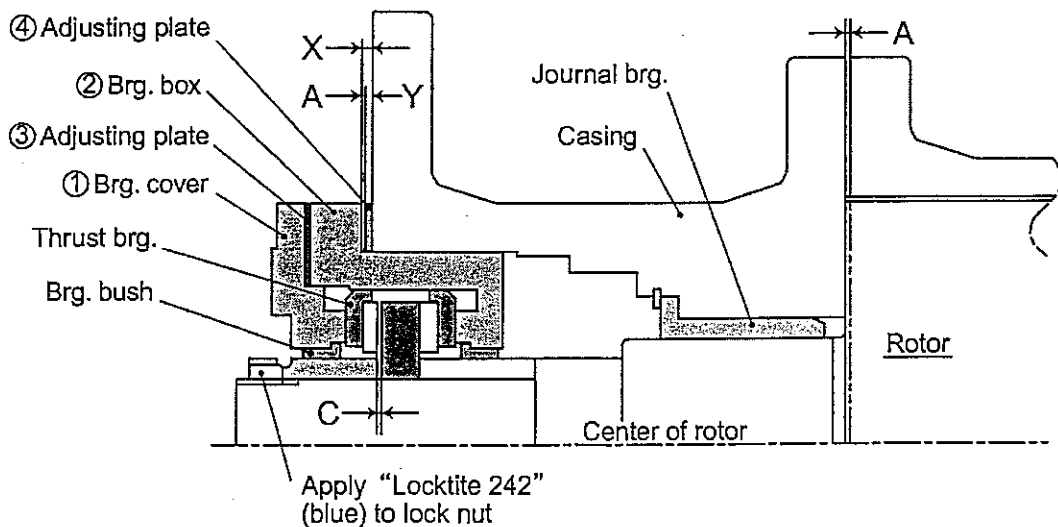

Fig. 4-2
- (2) Insert a shim between the outlet casing and thrust bearing box with such a thickness that the rotor keeps clearances from both side casing end planes. If the rotors are not replaced with new ones, the original adjusting plates may be employed as the shim.
- (3) Apply a dial gage to the rotor shaft end.
- (4) Move the rotors in both axial directions and measure the displacement of the rotors. This displacement is "thrust clearance of C". (Fig.4-2)
- (5) If the measured thrust clearance is found smaller than the required thrust clearance, replace the thrust adjusting plate between the thrust bearing box cover and the thrust bearing box with thicker one. It is allowed to add shims cut into the shape of the thrust adjusting plate to the existing thrust adjusting plate, But it is preferable to use a new thicker thrust adjusting plate.
- (6) If the thrust clearance is found larger than the required thrust clearance, polish the surface of the thrust adjusting plate to reduce the thickness.
- (7) Replacement of Thrust Pads
- (1) Place the rotor in the casing, and push the rotor toward the discharge side so that the discharge end plane clearance becomes zero. (See Fig. 4-2)
- (2) Then, pull the thrust bearing box ② outboard until the active side thrust bearing comes in contact with the thrust disc.
- (3) At this stage, measure the clearance between the thrust bearing box and the discharge casing flange where the adjusting plate ④ is to be inserted. The thickness of the adjusting plate ④, Y, should be: